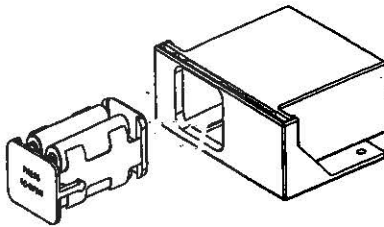

Figure 3
3. Slide the battery compartment into the Remote Receiver. See *Figure 3*.